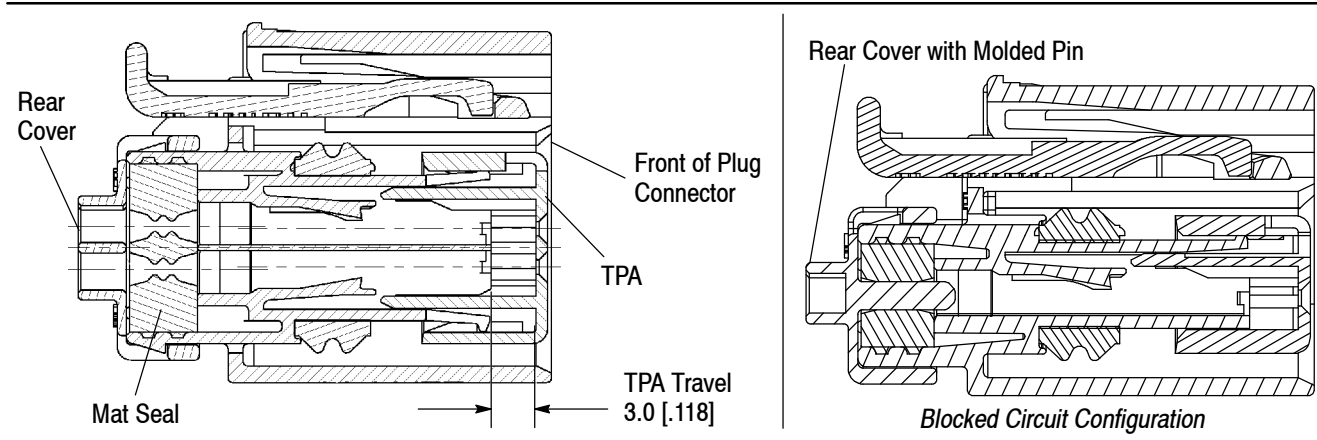

Figure 5
**NOTE**  The rear of the connector must be completely sealed. Unused circuits are blocked by molding shut the unused terminal opening on the rear cover. A pin molded on the blocked circuit passes through the mat seal to prevent any contamination from entering the seal. See Figure 5. Current blocked circuit configurations can be found on the TE Customer Drawing. New configurations can be obtained by contacting the PRODUCT INFORMATION number at the bottom of page 1.
1. Verify that the TPA is in the pre-staged position (un-locked). Prior to installing the contacts, the TPA and the front of the connector should be almost flush with each other. See Figure 5.